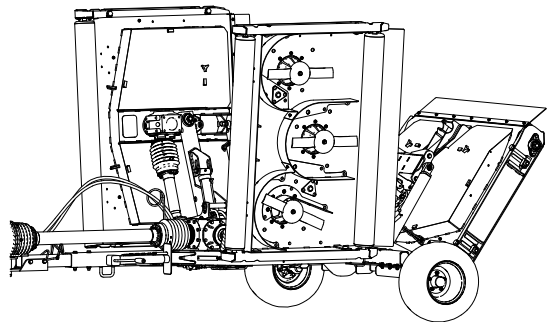

Figure 63
2. Raise and latch the mower decks, shut off the engine, and remove the key (Figure 63).